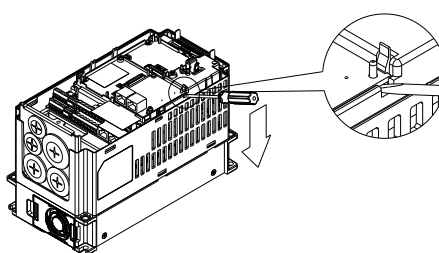

Figure 5
- Pull to open the card clip and put a flat-head screwdriver into the groove to pry the PCB off the card clip (see Figure 5).